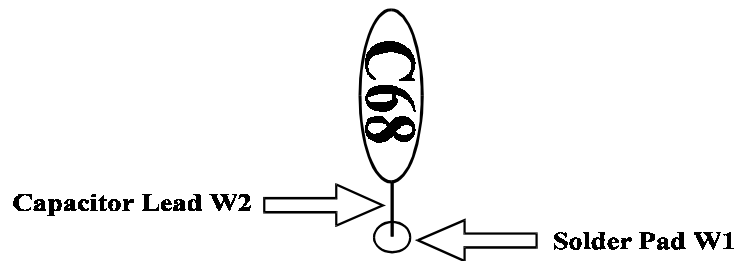

Figure 2 C68 Exploded View
18. Locate the **5" BLUE** wire on the MFJ-780 at hole **W2** and solder it to **Capacitor Lead W2** of C68. This needs to be made as short as possible, in order to reduce any RFI from the microprocessor circuitry. Please refer to **Figure 2, C68 Exploded View** on page 12. Make a good clean solder joint by using only enough heat and solder to do the job. Always remember that a "good solder" presents a smooth, shiny appearance, where a "cold solder" joint will be dull and grayish in appearance.
19. Locate the **5" RED** wire on the MFJ-780 at hole **W1** and solder it to **Solder Pad W1**. This connection needs to be made as short as possible, in order to reduce any RFI from the microprocessor circuitry. Please refer to **Figure 2, C68 Exploded View** on page 12. This is the same solder pad that you removed **Capacitor Lead W2** from earlier. Make a good clean solder joint by using only enough heat and solder to do the job. Always remember that a "good solder" presents a smooth, shiny appearance, where a "cold solder" joint will be dull and grayish in appearance.
24. Put the top chassis cover back onto the MFJ-1278B and secure it with the (4) screws you removed in step #2 of this instruction.